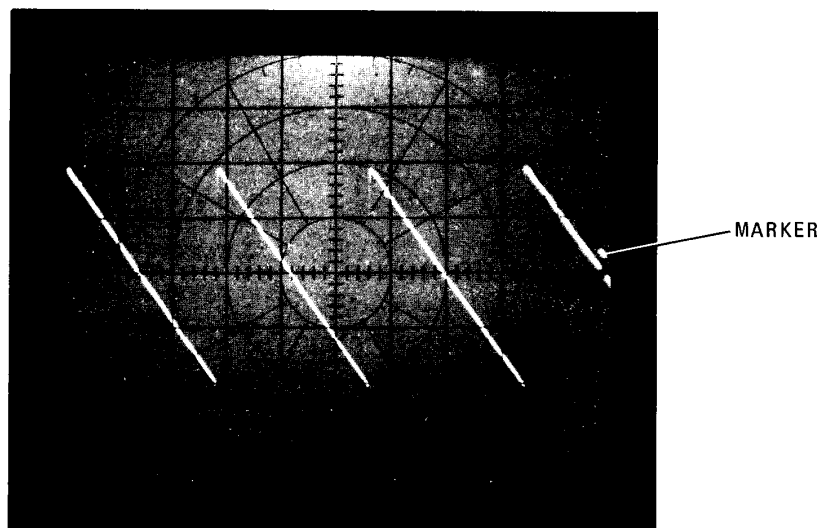

Figure 4-21. Phase Reference Test Display
5. Adjust TUNING to place the marker at the highest frequency at which the trace crosses the center graticule line. The trace should appear as in Figure 4-21.